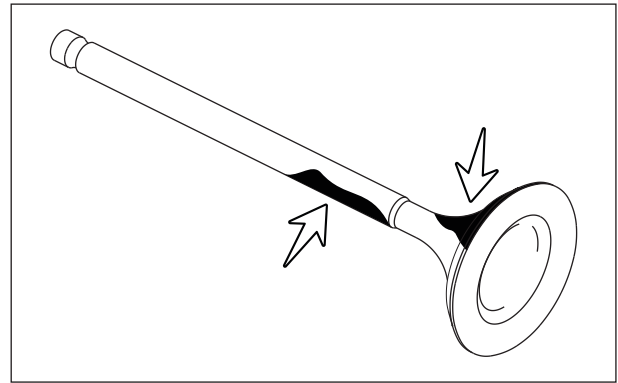

Fig. 3.57
- Carbon deposits on the valve stem rubs continuously on guide valve and results in increased clearance between the stem and guide valve. Clean the valve stem with suitable cleaning solvent. (Fig. 3.57) Repeat with other valves.